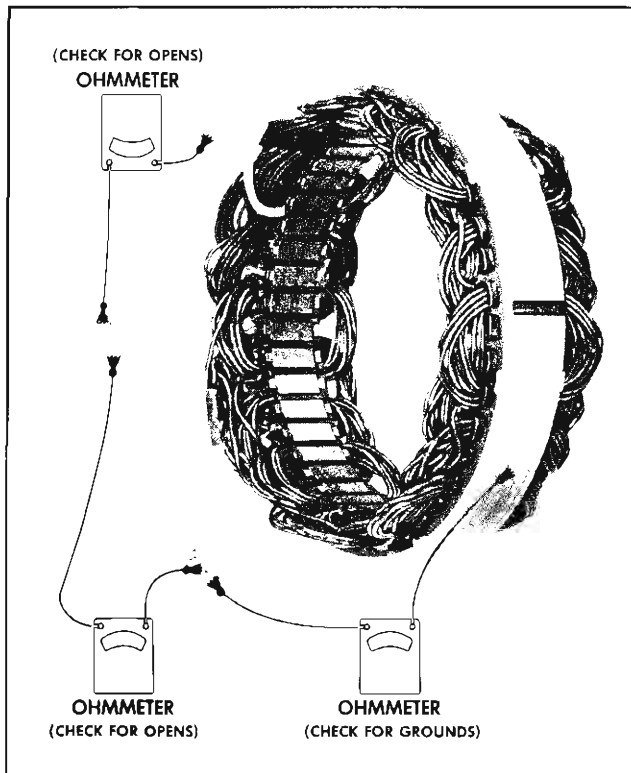

Fig. 11-16 Checking Stator
a. To check for grounded windings, connect lamp or ohmmeter from any stator lead to frame. If lamp lights or ohmmeter reading is low the stator is grounded (see Fig. 11-16).
lamp fails to light and if ohmmeter reading is high, there is an open in the stator windings (see Fig. 11-16).